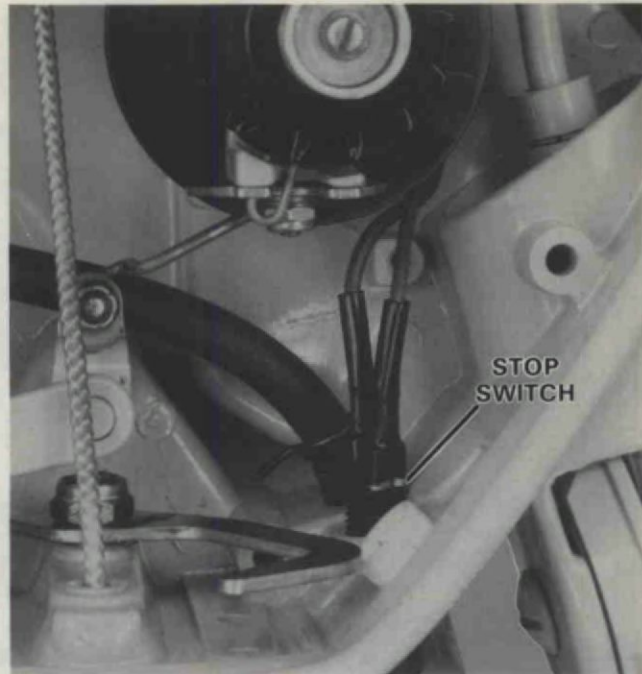

Figure 6. Disconnecting Stop Switch.
4. Disconnect primary wires from stop switch. Figure 6.